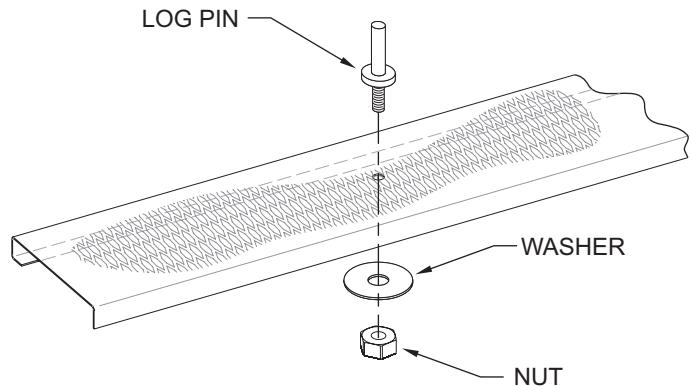

Figure 3
4. Insert two Log Pins in the holes in the rear glass support screen and secure each with a washer and bolt. See Figure 3.
5. Insert one log pin in each hole in the rear glass support screen and each side glass support screen. Secure each with a washer and bolt. See Figure 3.